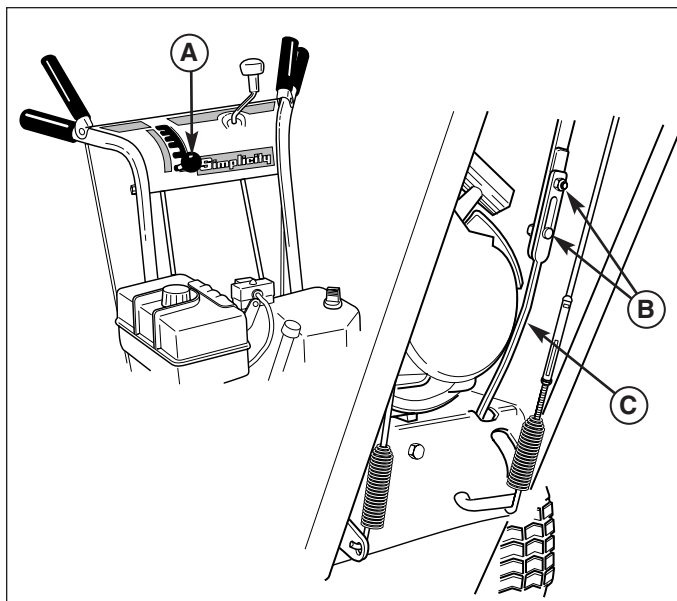

Figure 19. Speed Selector Linkage Adjustment
1. Move the ground speed control (A, Figure 19) fully forward.
2. Loosen the hardware (B) securing the upper and lower shift rods.
3. Push the lower rod (C) down fully (into the housing).
4. Make sure the ground speed control (A) is in the full forward (5th gear) position. Pull the two rods apart and tighten the shift rod hardware (B).